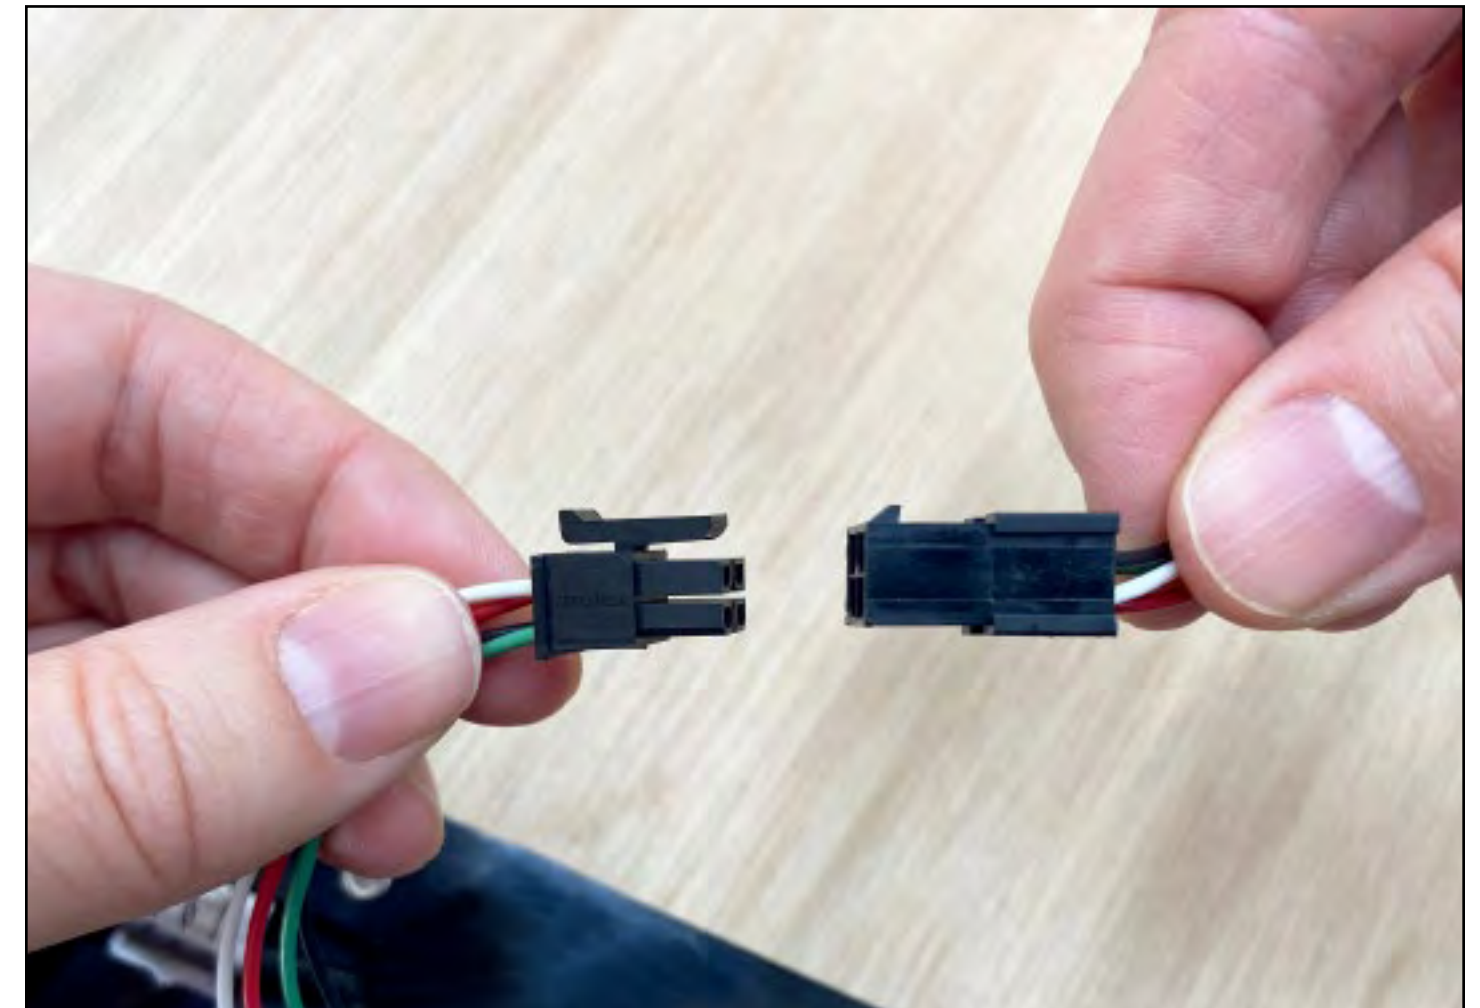

Figure 4-3
**NOTE:** Connectors are polarized and will only connect one way. Do not force a connection. See **Fig. 4-3**.
3. Use a 4mm hex key and four (4) M6×12mm BHCS to secure the endplate to the rail. Fully tighten.